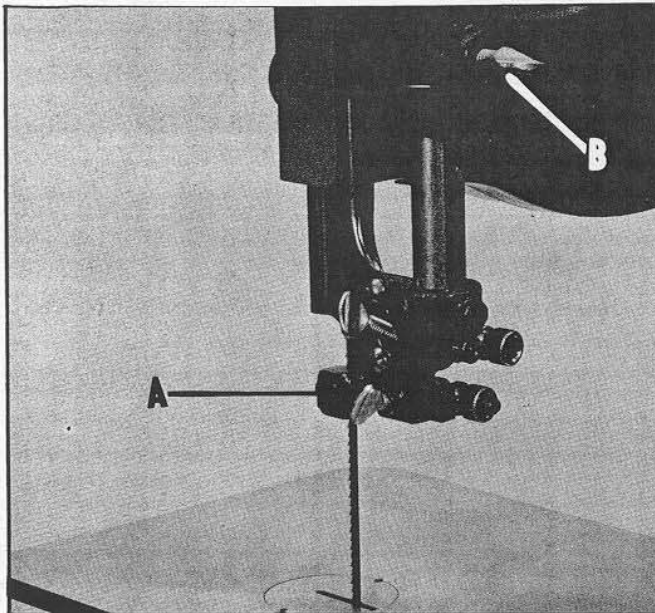

Fig. 15
The upper blade guide assembly (A) Fig. 15, should always be set as close as possible to the top surface of the material being cut by loosening thumb screw (B) and moving the guide assembly (A) to the desired position.